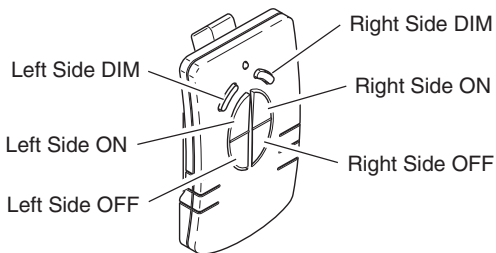

Figure 2 - Function Controls
2. Remote Control Functions. The three buttons on the left side of the remote will operate one or more receiver units with matching code settings. The three buttons on the right side of the remote will operate a second set of one or more receiver units (see Figure 2).